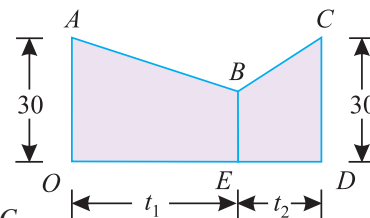

Fig. 17.7.
**Solution.** Let  $OABCD$  be the velocity-time graph, in which  $AB$  represents the period of retardation and  $BC$  period of acceleration as shown in Fig. 17.7.